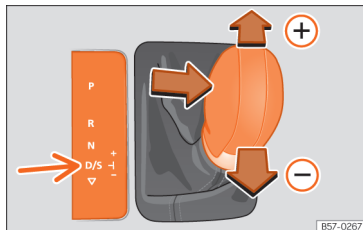

Fig. 99 Lever in the Tiptronic position
- Move the lever forwards  or backwards  to change up or down a gear **»» Fig. 99**.